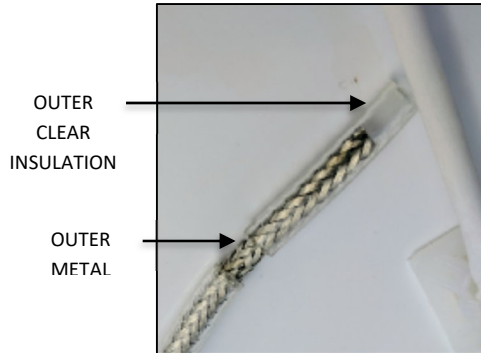
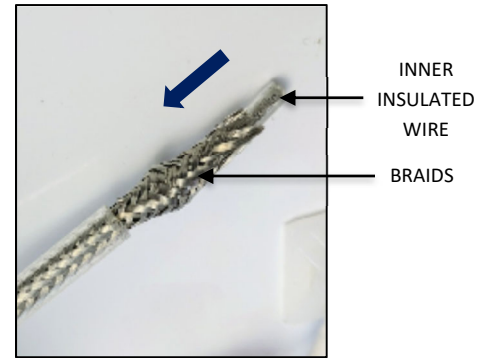

FIG. 26
FIG. 27
- Strip off 1.00" of outer clear insulation exposing the outer metal braiding as shown in FIG. 26 below. **Be careful not to cut or damage the outer metal braiding.** Gently push braiding down to loosen the individual braids exposing the inner insulated wire as shown in FIG. 27 below.